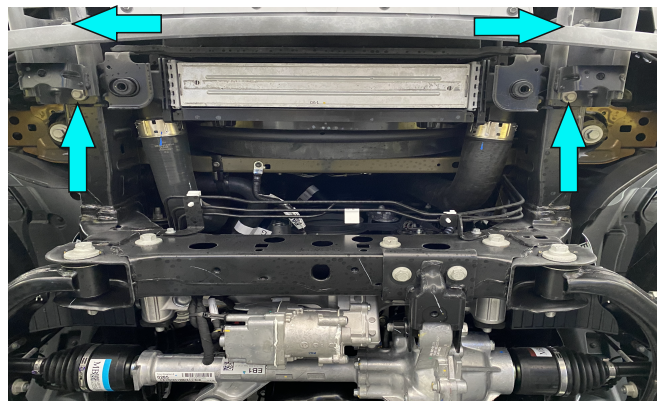

Fig.2
2. Fix intercooler using transmission jack, unscrew OE bolts after that and remove OE recovery points (fig.2)